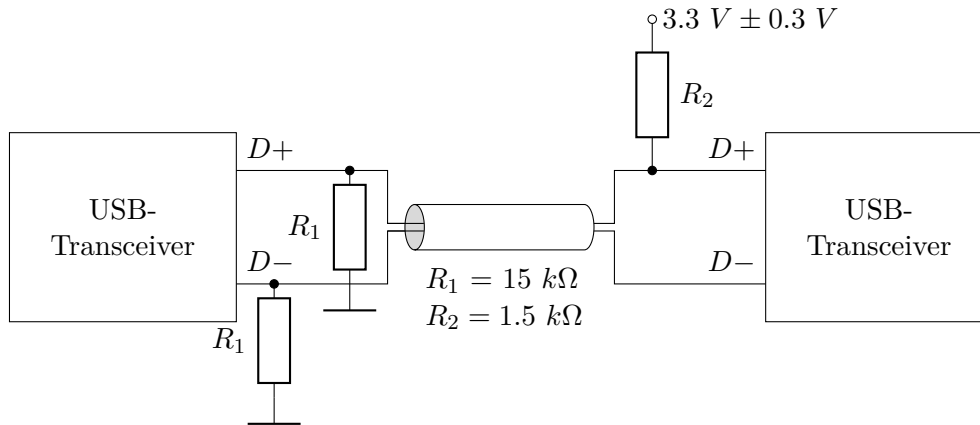

Figure 2.1: Example for resistor configuration at 12Mbit/s
A) Consider an USB 1.1 device in reset state. Calculate the current on the bus. Neglect the energy needs of the device itself. Use the circuit in Figure 2.1 as orientation.